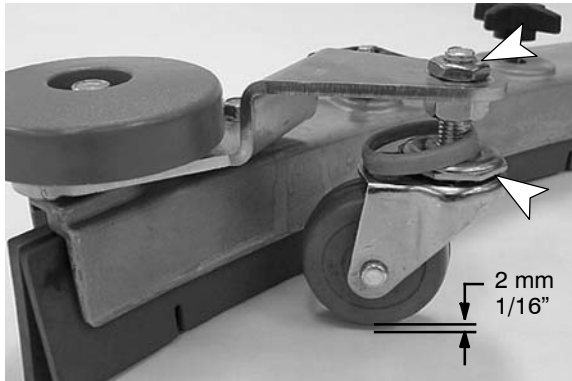

FIG. 53
1. To check the squeegee assembly for proper adjustment, remove the squeegee assembly from the machine and place it on a level surface. Measure the distance between the caster and the surface. It should measure approximately 2 mm (1/16") (Figure 53).
2. To adjust the caster height, loosen the top nut and remove the plastic bearing cover to access the adjustment nut. Turn the adjustment nut until properly adjusted (Figure 53). After adjusting, tighten the top nut and replace the plastic bearing cover. Repeat step for the other caster.